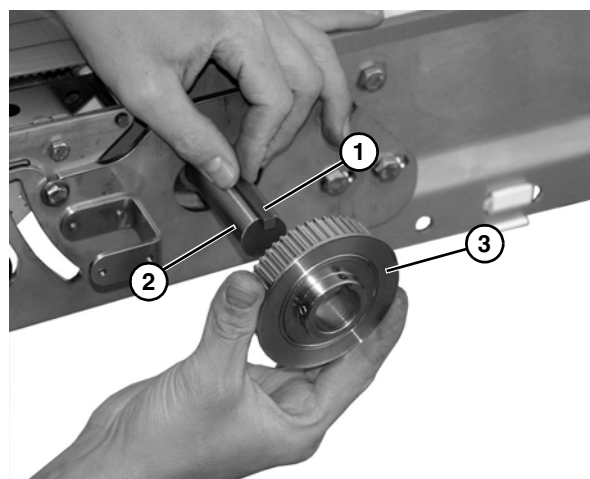

Figure 14
10. Install key (**Figure 14, item 1**) onto conveyor shaft (**Figure 14, item 2**).
11. Install drive pulley (**Figure 14, item 3**) onto end of conveyor shaft.